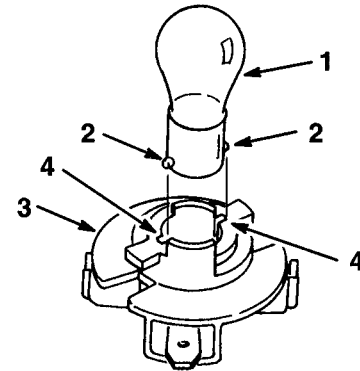

**Figure 32**
3. Rotate the bulb holder 1/4 turn counterclockwise and remove it from the reflector (Fig. 32).